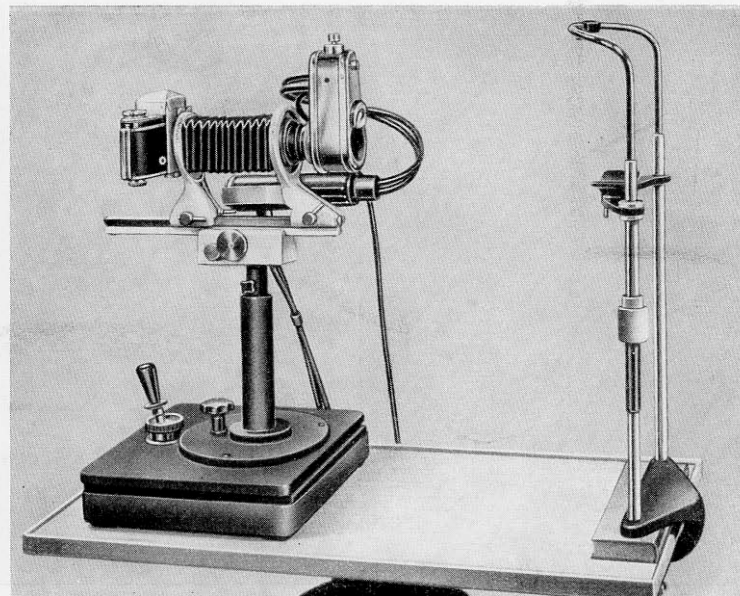
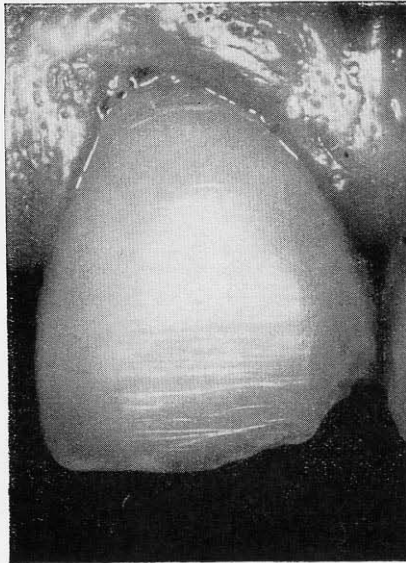

Fig. 4
Fig. 5 (left)
2. Exposures inside the mouth (Figs. 5, 6, 7, 8, 9)
When photographing the front teeth (Figs. 5 and 6) and the surrounding gums it is better to use the arrangement of equipment shown in figure 4. It consists of an instrument-table whereupon there is a cross-table, which carries the "Kolpofot". On one side the chin and forehead support is fastened with clamps. The equipment can be drawn from the VEB Carl Zeiss, Jena. The table-leaf of the instrument-table must have a length of 70 cm. at least. If necessary, you may have the table-leaf delivered without the top and arranged with the joiner to make a corresponding long leaf.
If you wish to make exposures in the very interior of the cavity of the mouth (palate [Fig. 8], molar teeth, inside of the cheek, etc.) you will do well to use a tripod of the shape shown in figure 4, and a chair with a head-rest adjustable. In some cases (e. g. for exposures of the gums) it is better to let the patient lie down, and to place his head in the most convenient position to the apparatus. You will, at all events, need an assistant to move the patient's head as required and to hold his mouth open with a suitable instrument. The seat of the chair, or the surface of the couch on which the
The "Kolpofot" permits making exposures of the eye-ball, the iris, the corner of the eye, etc. A forehead and chin support, as seen in Fig. 4, is necessary. In order not to dazzle the patient, the pilot light has to be directed slightly away from the pupil and not right into it, or other lamps may be used and put up at the sides. Perhaps the bright parts (e. g. the central flash equipment) will have to be covered with black paper or cloth, for they sometimes cause reflections in the eyeball.